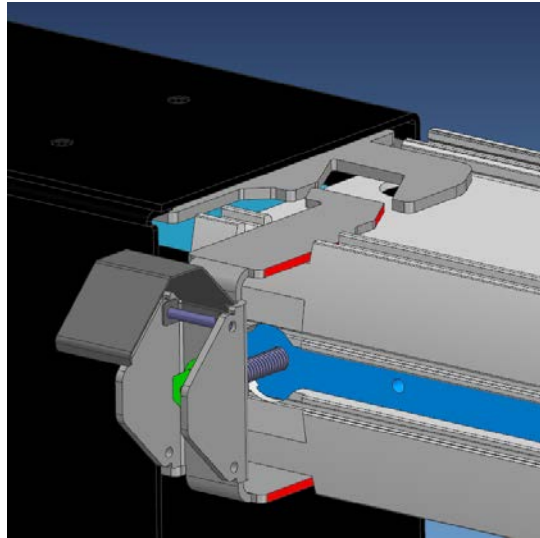

Figure 13 – Engagement mechanism in initial engagement position (open position).
2. Align the guide rails of the PDM-B to the receiving rails in the bottom receptacle of the PFM. Gently slide the PDM-B into the PFM until it has reached initial engagement. This should leave a gap between the PFM and the PDM-B of approximately 5/16" or 10mm (Figure 13).